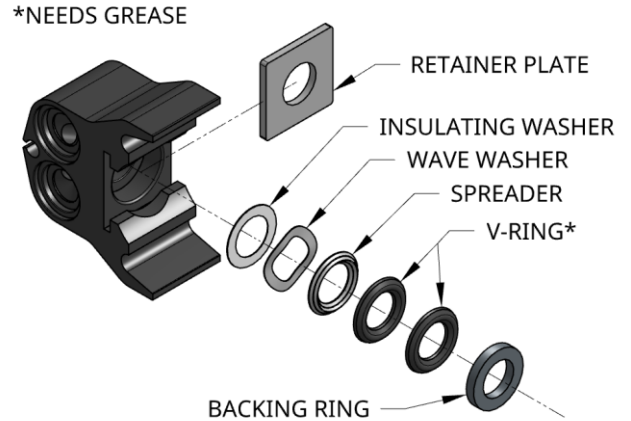

Figure 3
3. Clean the head with a rag or towel. Inspect for damage or excess corrosion. If the head is damaged, do not rebuild. Note the order and orientation of repair parts prior to installation. See video or Fig. 3 for order and orientation.